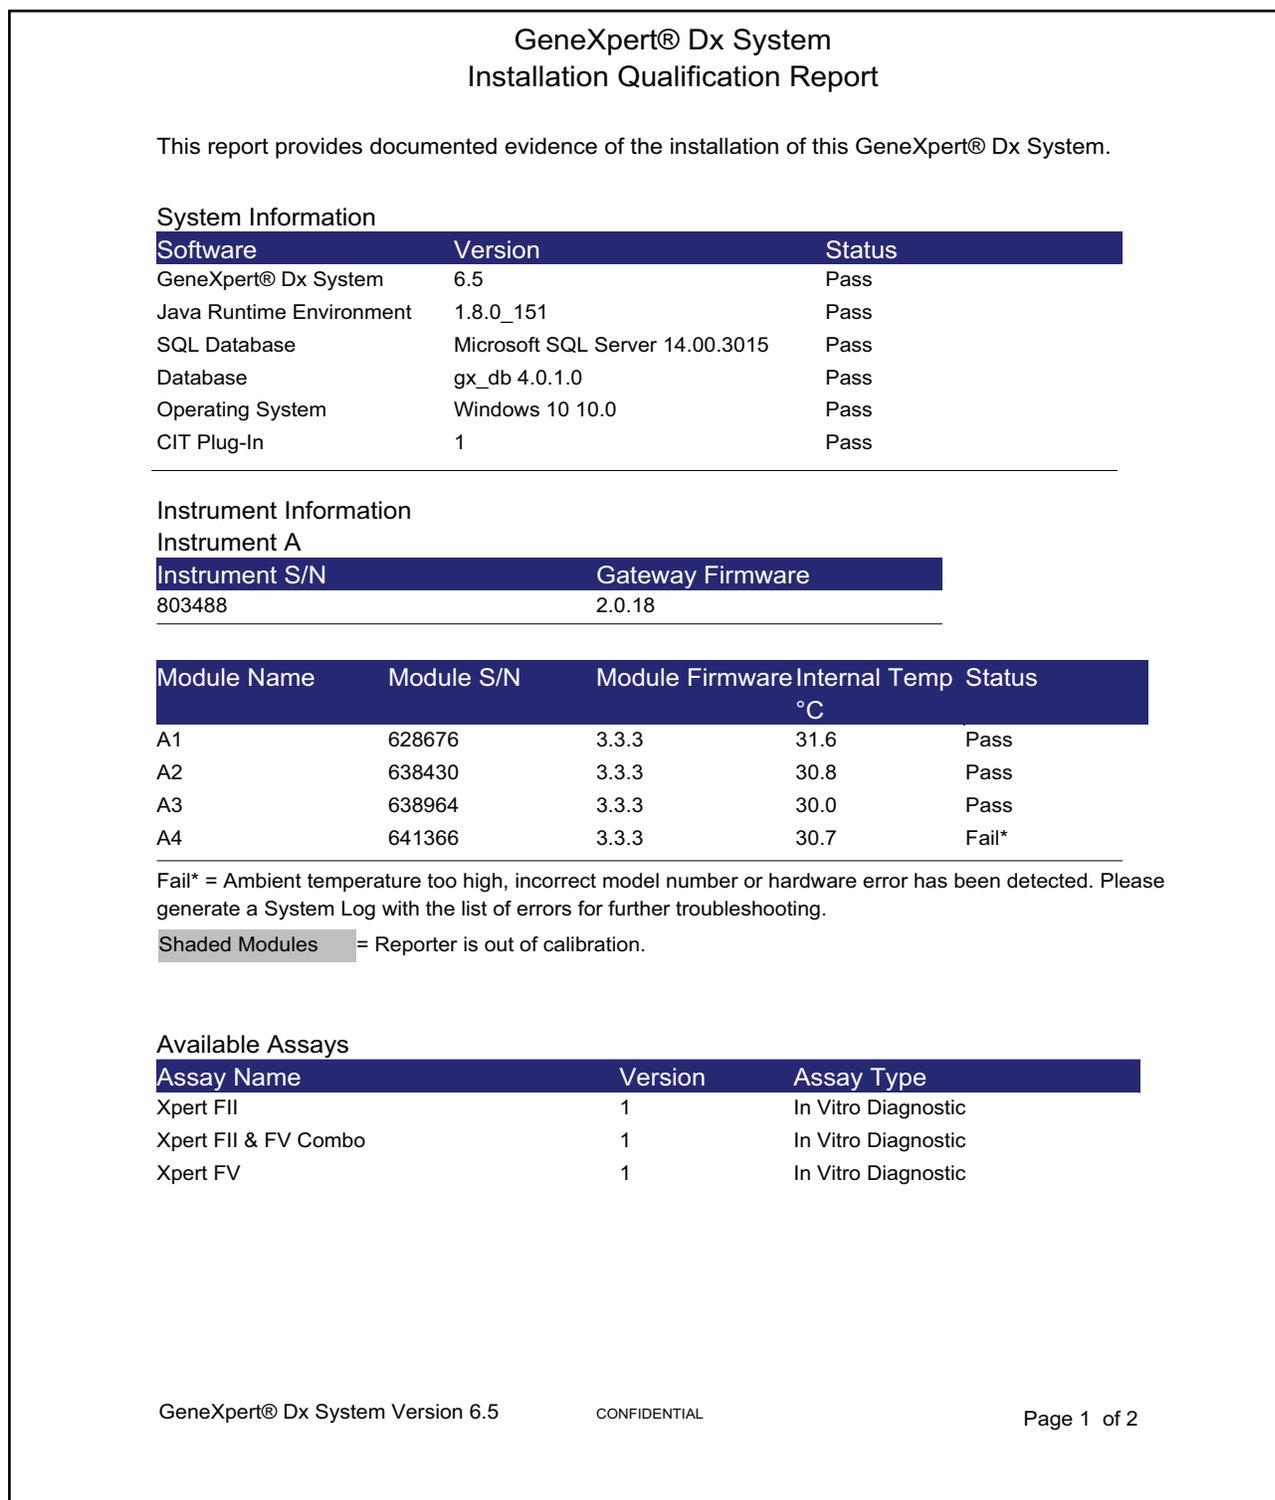

Figure 2-89. Example Installation Qualification Report—Page 1
2. The Adobe® Reader window appears and displays the GeneXpert Dx System Installation Qualification Report. See Figure 2-89.